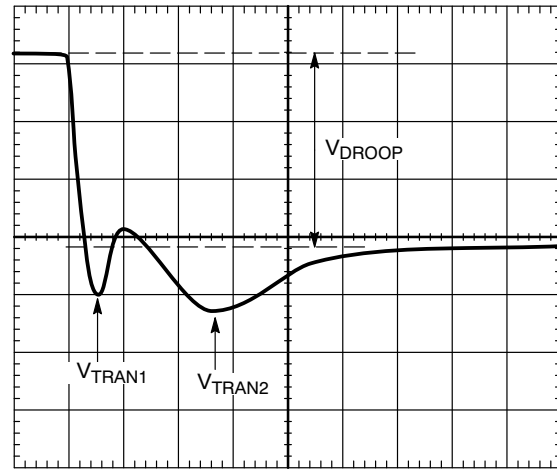

Figure 17. Transient Setting Waveform
- With the dynamic load still set at the maximum step size, expand the scope time scale to either 2 $\mu\text{s}/\text{div}$ or 5 $\mu\text{s}/\text{div}$. The waveform can have two overshoots and one minor undershoot (see Figure 17). Here, V_{DROOP} is the final desired value.